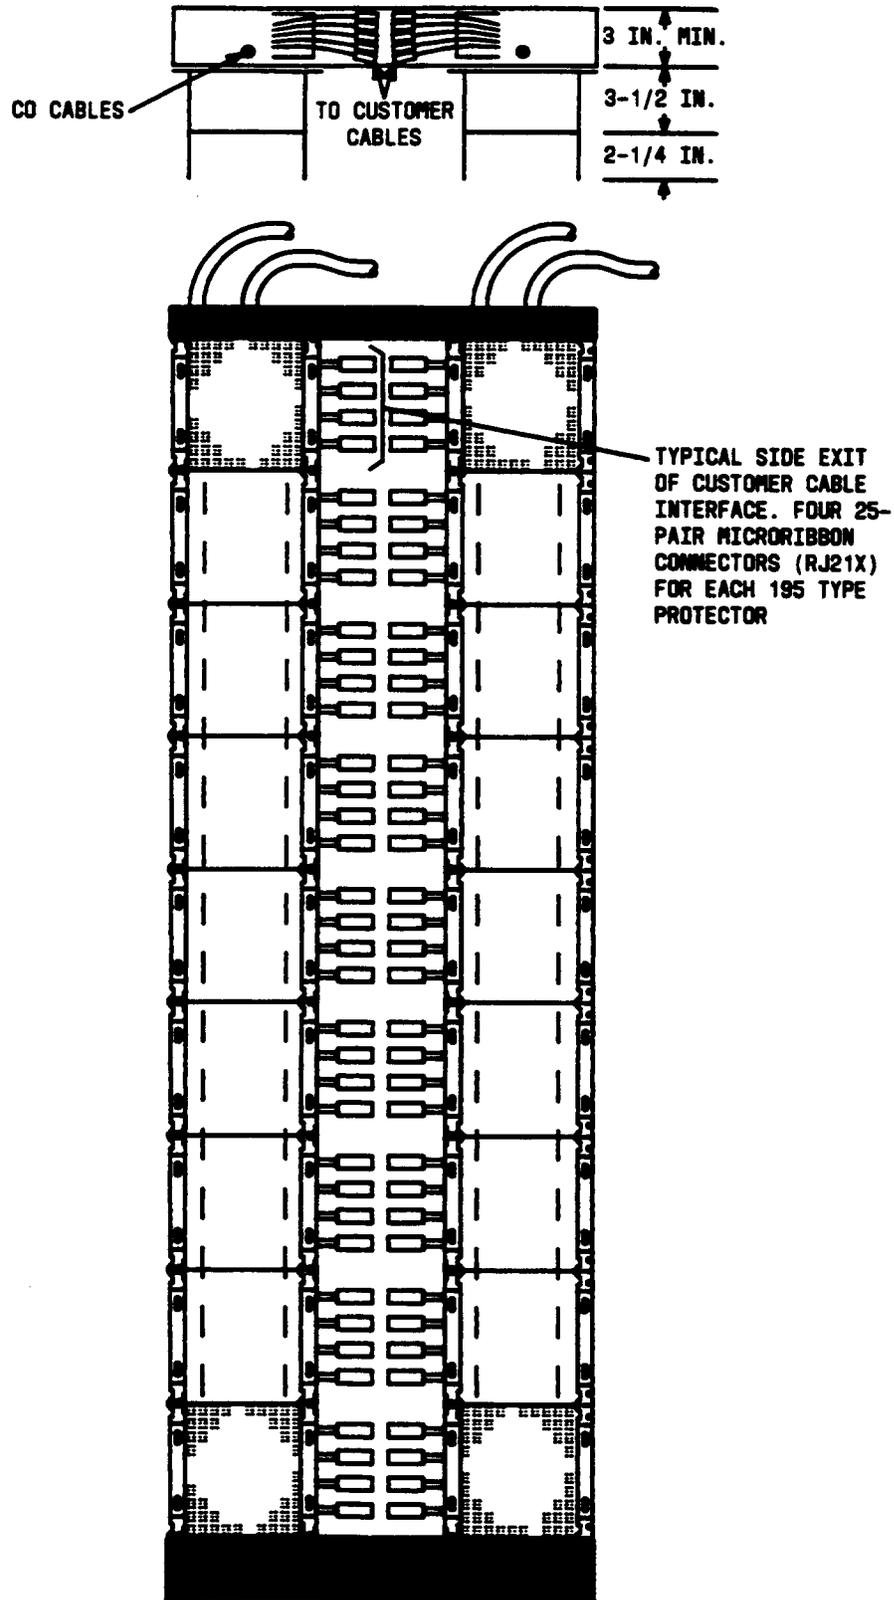

Figure 15—XLBET Protector Frame — Two-Column Configuration (Single Sided)
**5.30** The AT&T XLBET (Extra Large Building Entrance Terminal) framework (Figure 15) equipped with 195-type protectors provides a high-density single- or double-sided protector frame for many applications in a minimum amount of space. The XLBET can be cabled from the top or bottom.